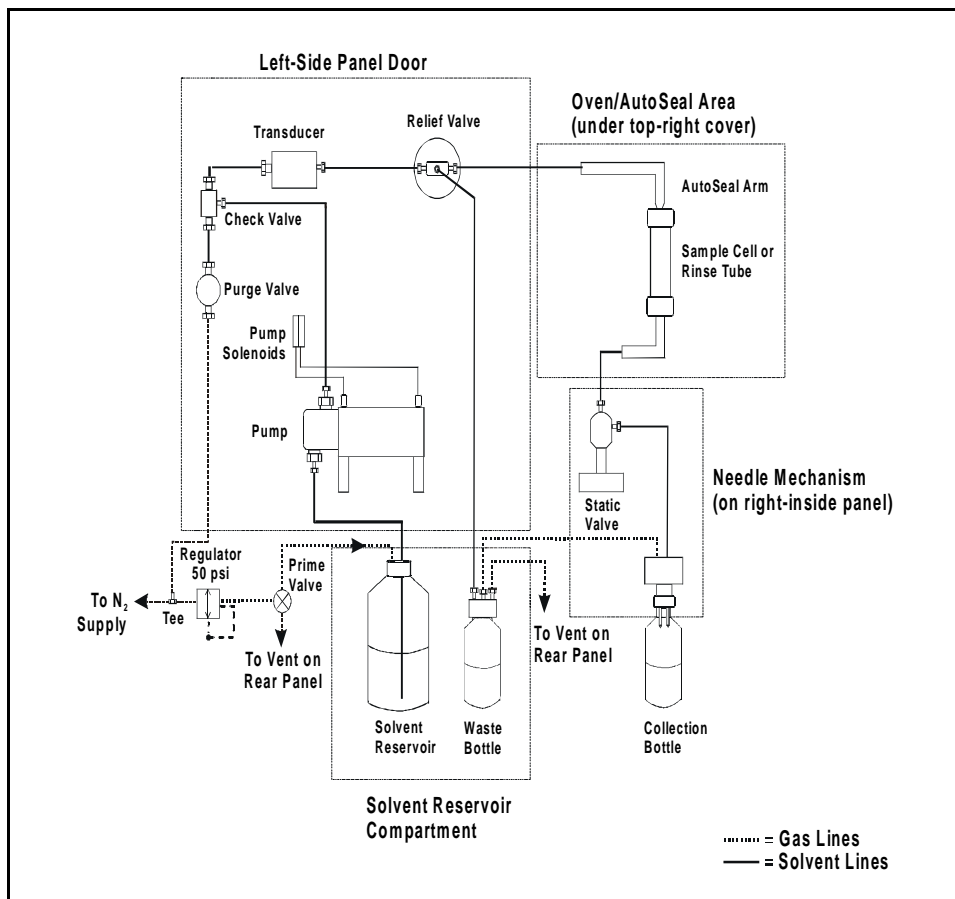

Figure 3-21. Solvent Flow Schematic
- Check for leaks from the solvent reservoir, pump, valves, and other components in the flow path (see Figure 3-21). Wipe up liquids and tighten or replace leaking fittings (see Section 5.2).